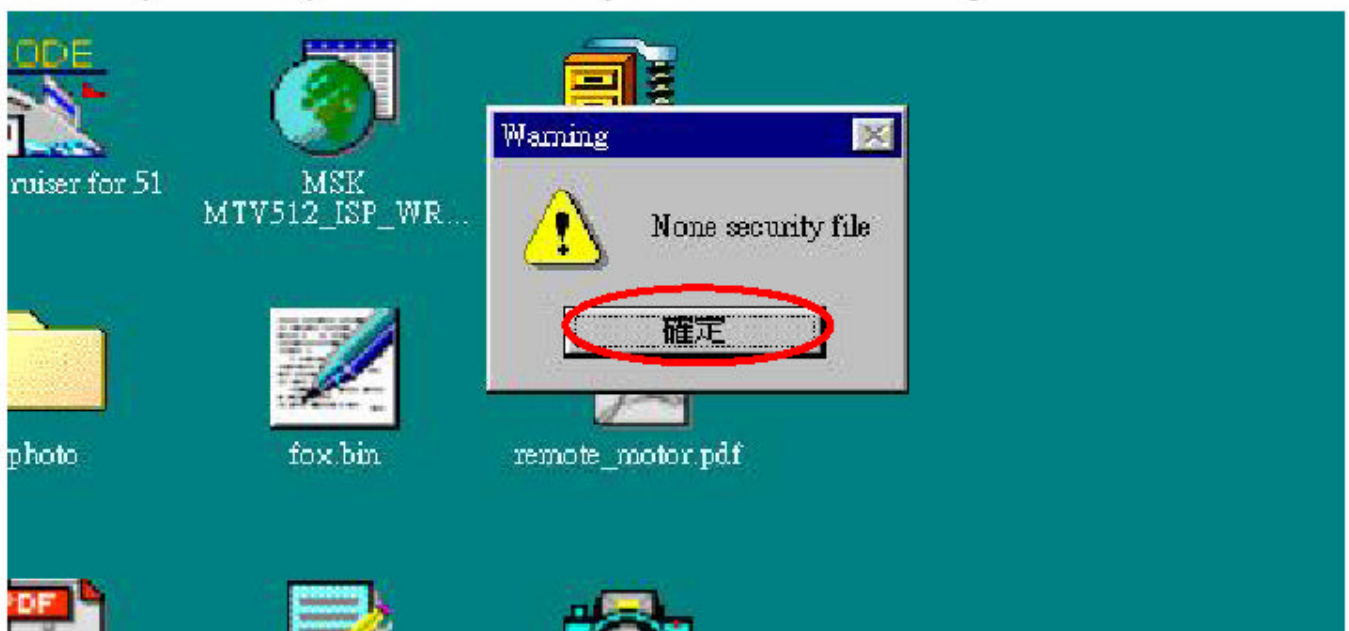

Fig 3.2
2.2 Security file is a key to use ISP function, press “確定” button, see Fig 3.2.